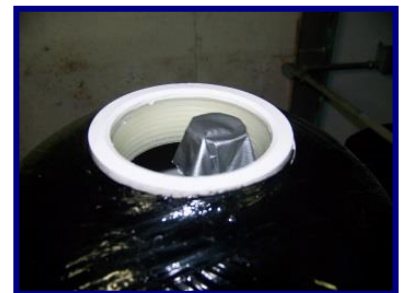

Figure 8: How to Block Distributer Tube
- c. Cover the exposed end of the distributor riser(s) to make sure no resin gets inside. Covering up the riser(s) with duct tape is one option, shown in Figure 8.